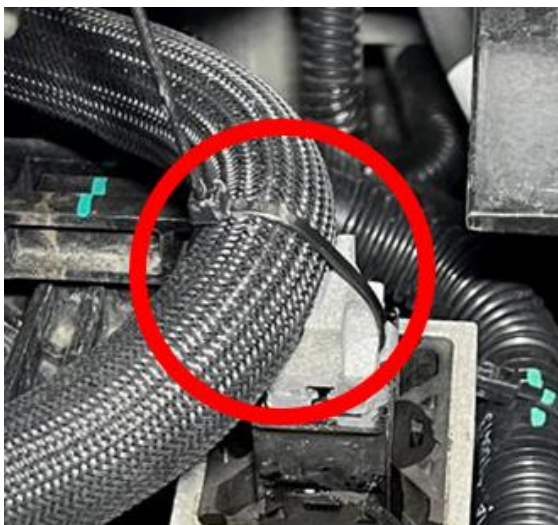
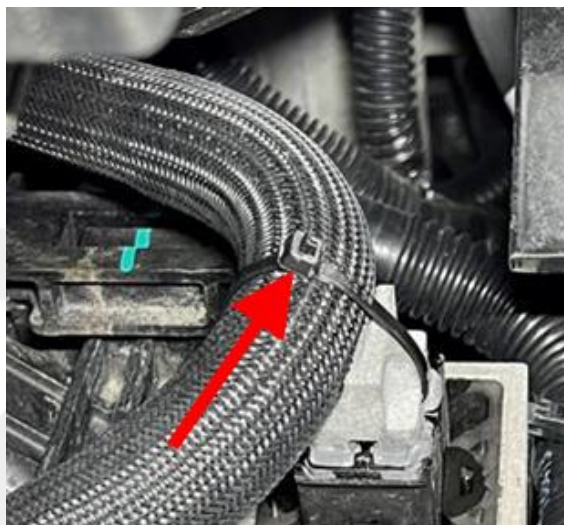

Figure 8
Figure 9
**NOTE:** Align the cable tie so that when the cable tie is fastened in a later step, the locking head is facing up and away from the coolant hose bracket (Figure 9)
9. Fasten the cable tie around the radiator outlet hose (Figure 8), and then cut off the excess cable tie (Figure 9).
**NOTE:** Make sure the cable tie locking head is facing away from the coolant hose (Figure 9).